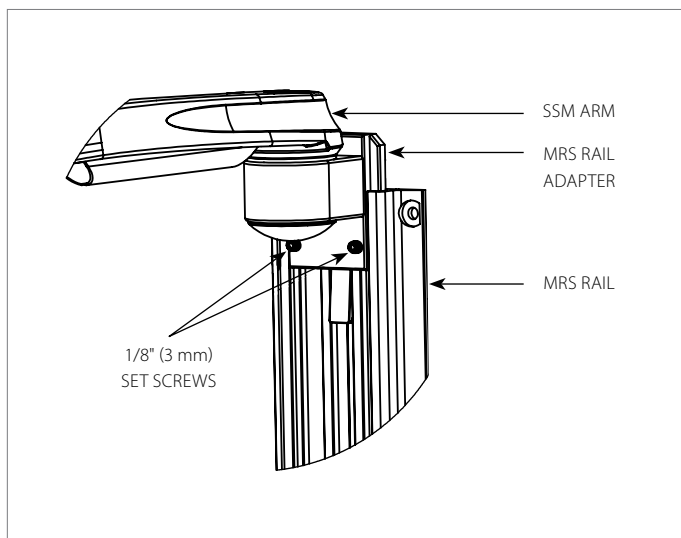

Figure 2
NOTE: TO SLIDE THE **ARM** VERTICALLY IN THE **CHANNEL**, LIFT THE **ARM** NEAR THE MONITOR AND PUSH UP OR DOWN AT THE **ADAPTER** (FIGURE 2).
1. Support the bottom of the **SSM ARM** with one hand, guide the **MRS RAIL ADAPTER** into the top of the **MRS RAIL** (Figure 2).